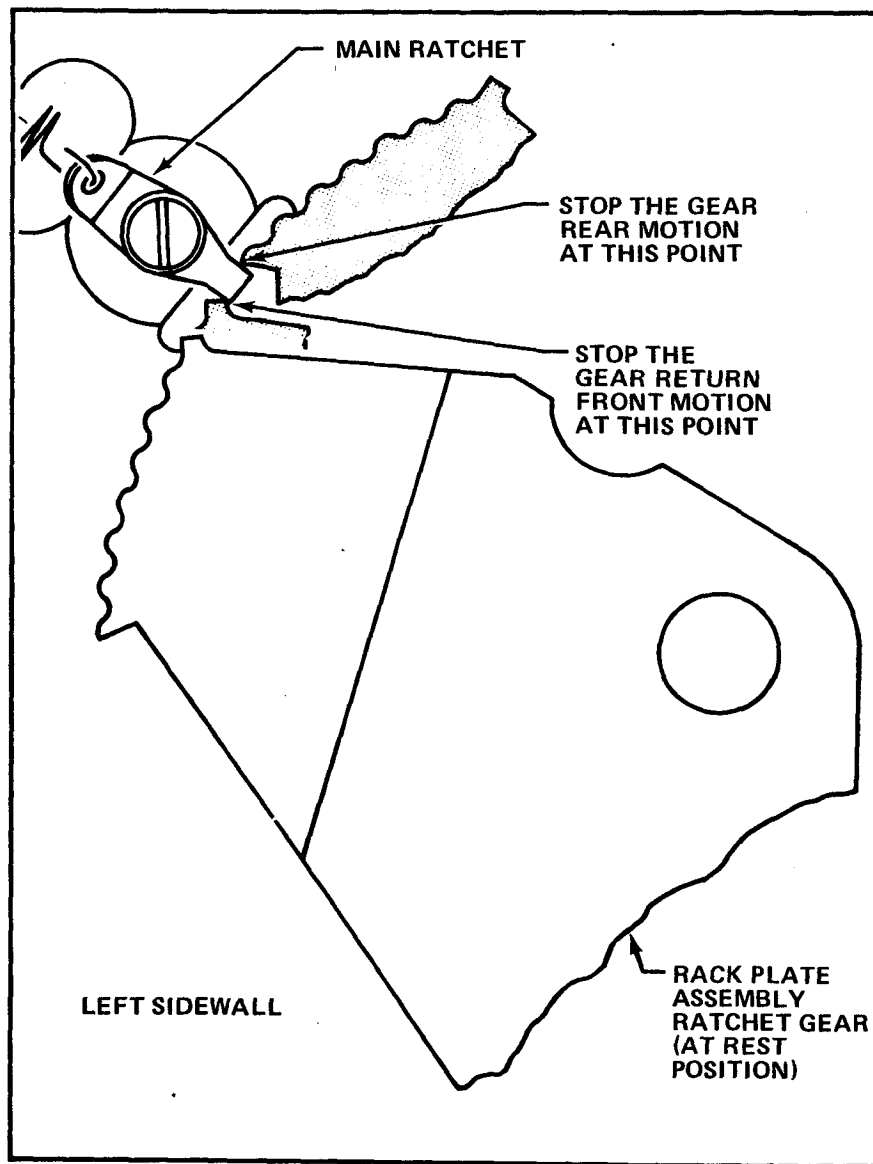

FIGURE 4.
13. Test the operation of the Counter. See Figure 4.